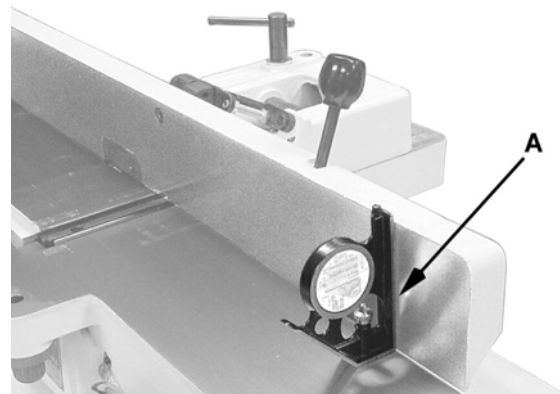

Figure 14
5. Place an angle measuring device on the table and against the fence to confirm a 90° setting (A, Fig. 14).
6. If the fence is not square to the table, release the *lock handle* (J), loosen the hex nut (F), and turn the *stop bolt* (E) until the fence is square to the table.
7. Tighten the lock nut (F) to retain the setting. Tighten the lock handle (J).